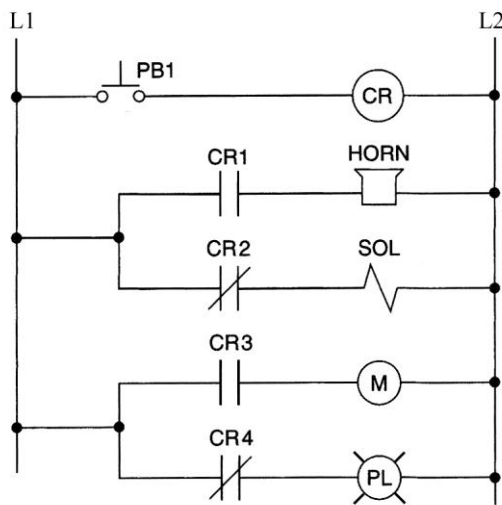

Figure 6-25 Hardwired circuit for assignment 1.
1) The hardwired circuit shown in Figure 6-25 can be programmed to show how contacts of a programmed output relay can be examined for an ON or OFF condition as many times as you like. Prepare an I/O connection diagram and ladder logic program for the circuit. Enter the program into the PLC, and prove its operation.